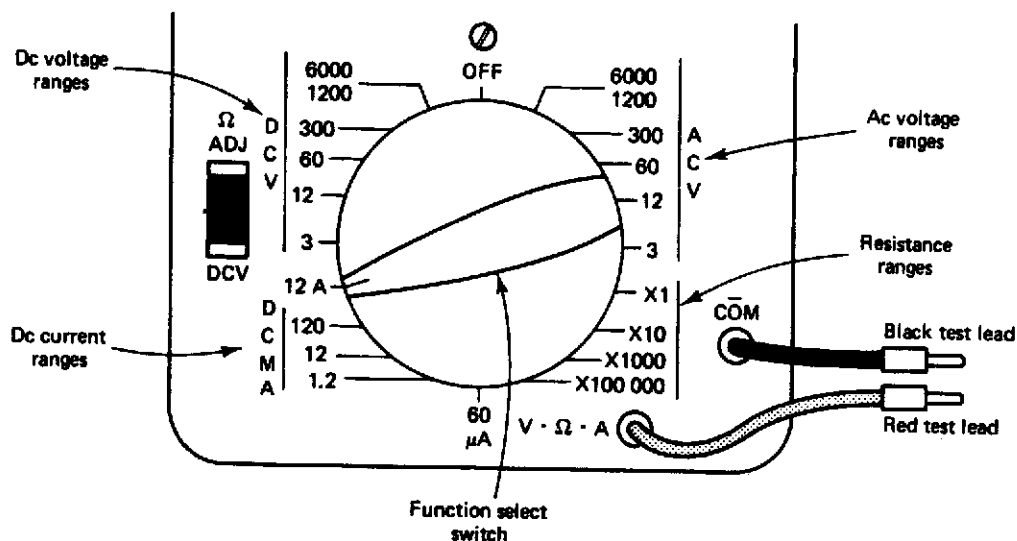

FIGURE 2-3A Controls of a Typical VOM.
1. The multimeter (VOM) is used for basic electronic work. A VOM can be used as an ammeter, a voltmeter, or an ohmmeter. Simply adjust the function selection switch for the desired function. Fig. 2-3A shows the controls, including the function-select switch, of a common VOM.